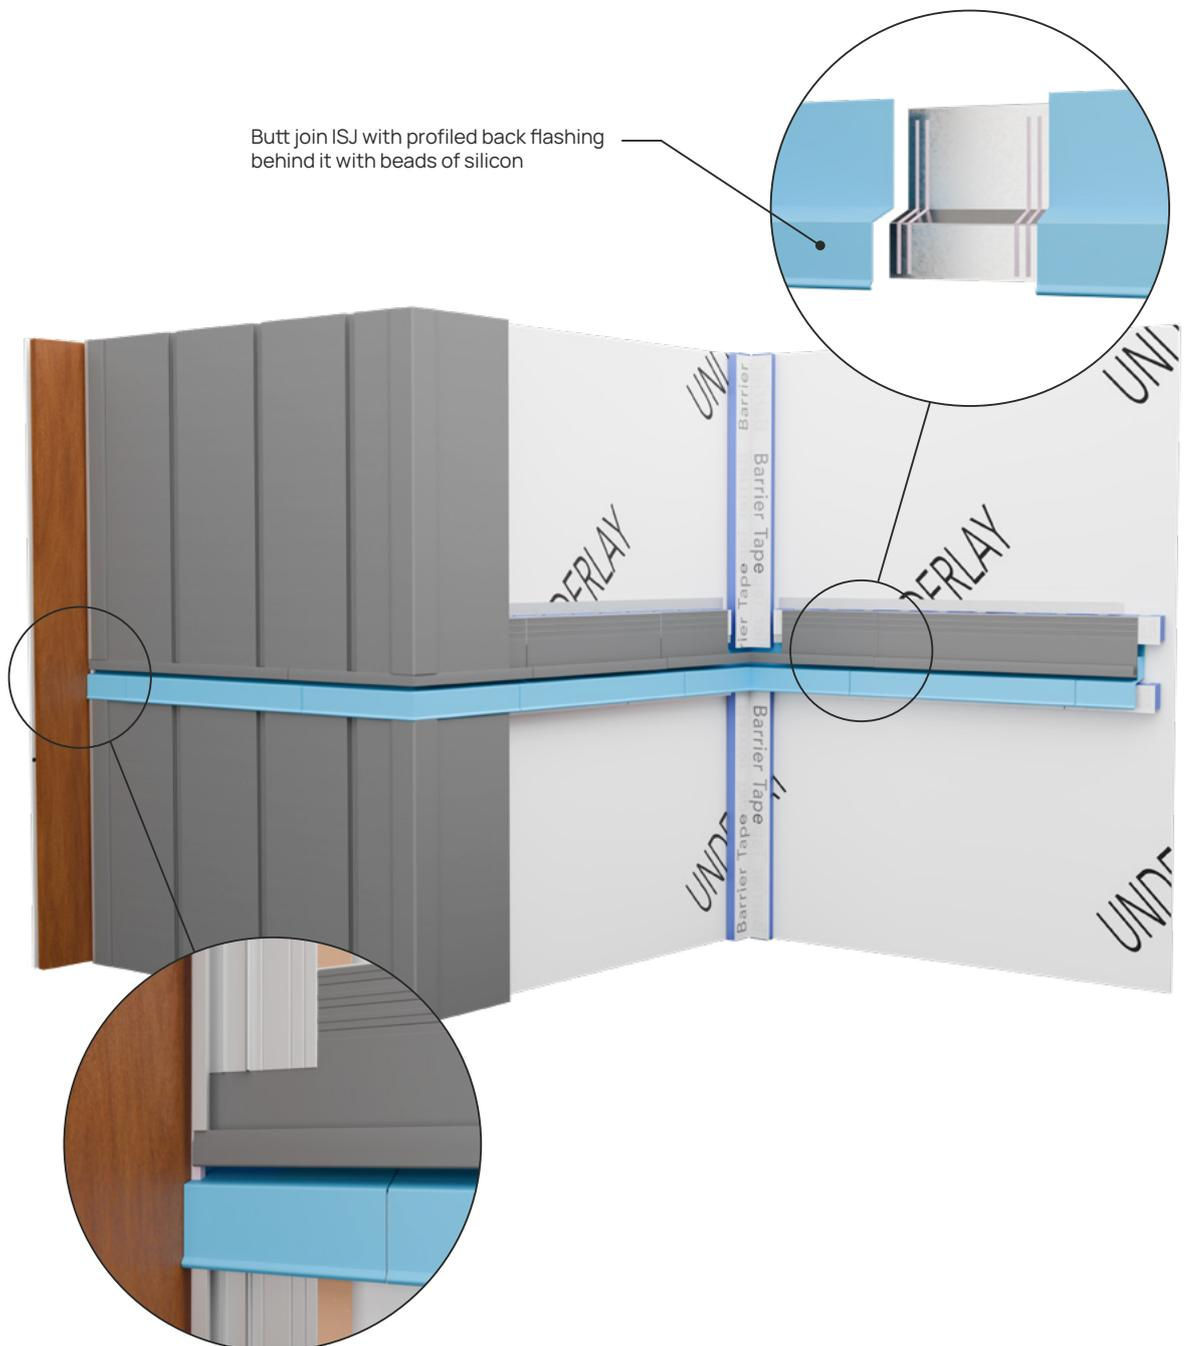

FIGURE 43. INTER-STORY JOINT INSTALLATION
– See Figure 43.
4. Install supplied 150mm Profiled back flashings with 2 beads of MS sealant to each joint (4 beads per soaker) – See Figure 43.